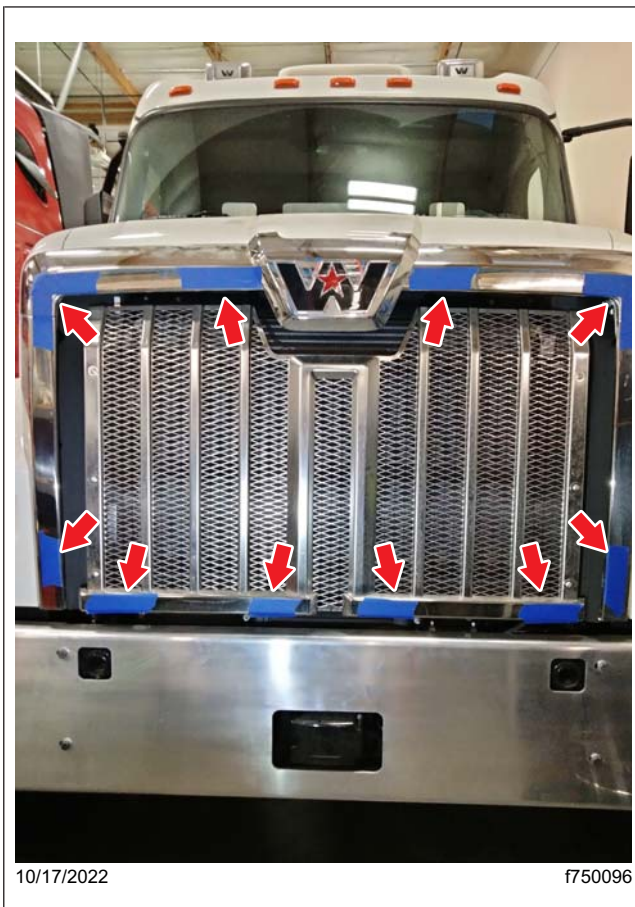

Fig. 1, Masking Tape Locations
5. Cover the areas that need to be drilled, using masking tape. See **Fig. 1**.